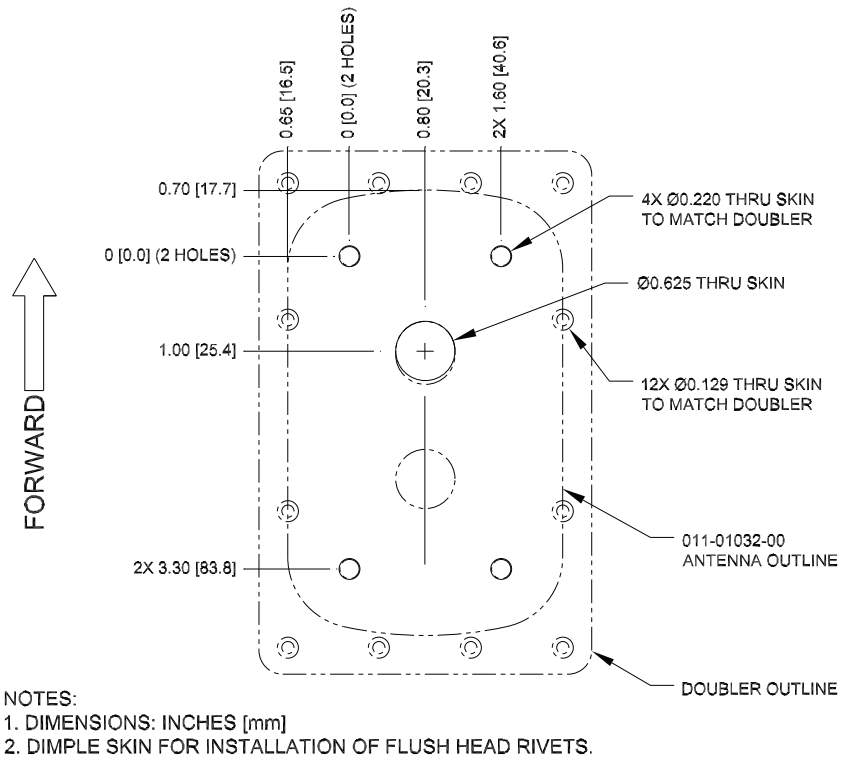

Figure 6-18 Skin Cutout Detail, ARINC 743 Footprint Antenna, Skin Thickness 0.032" to 0.049"
3. When using Garmin P/N: 115-00846-00 doubler, sixteen rivet holes exist in the part. For installation of Garmin P/N: 115-00846-00 in skins of thickness between 0.032" and 0.049", only the rivets identified for use through the skin cutout detail (Figure 6-18) and doubler installation (Figure 6-21) are required.